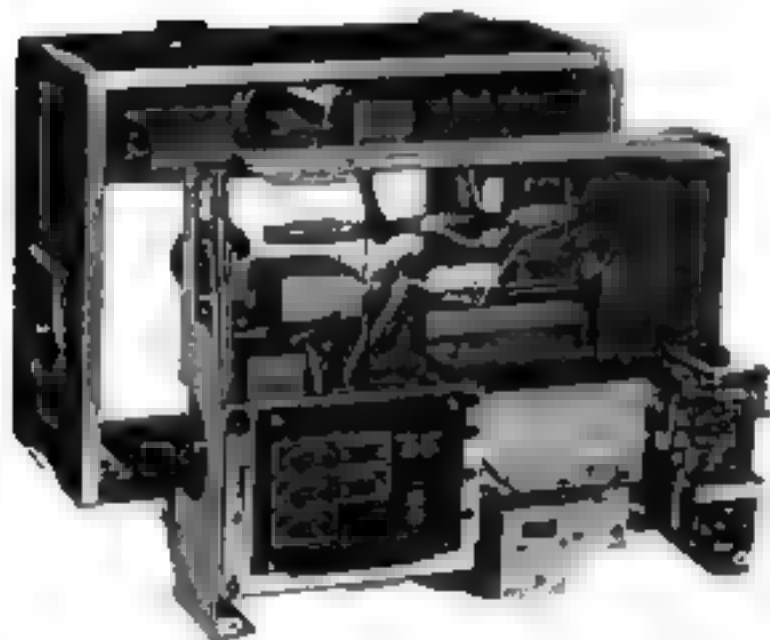

Fig. 2-6
11. Now, the chassis is removable as shown in Fig. 2-6